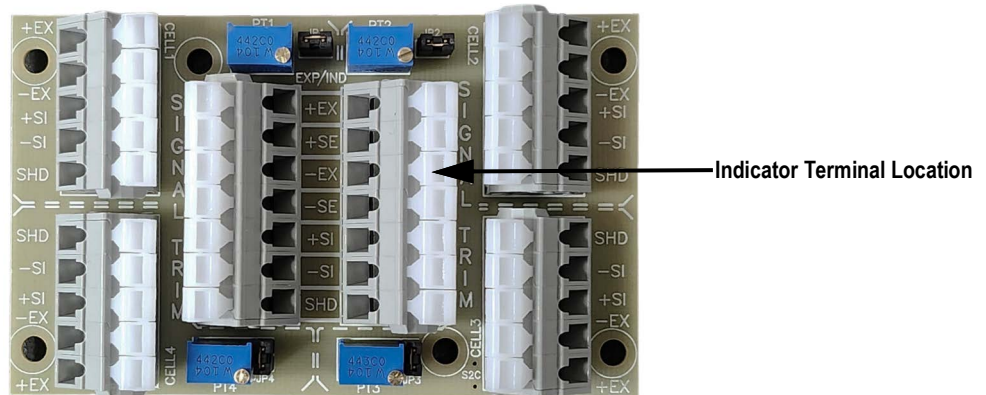

Figure 2-8. Junction Box Wiring
8. Connect the wires to the indicator terminal (Figure 2-8 on page 12) as shown in Table 2-1.